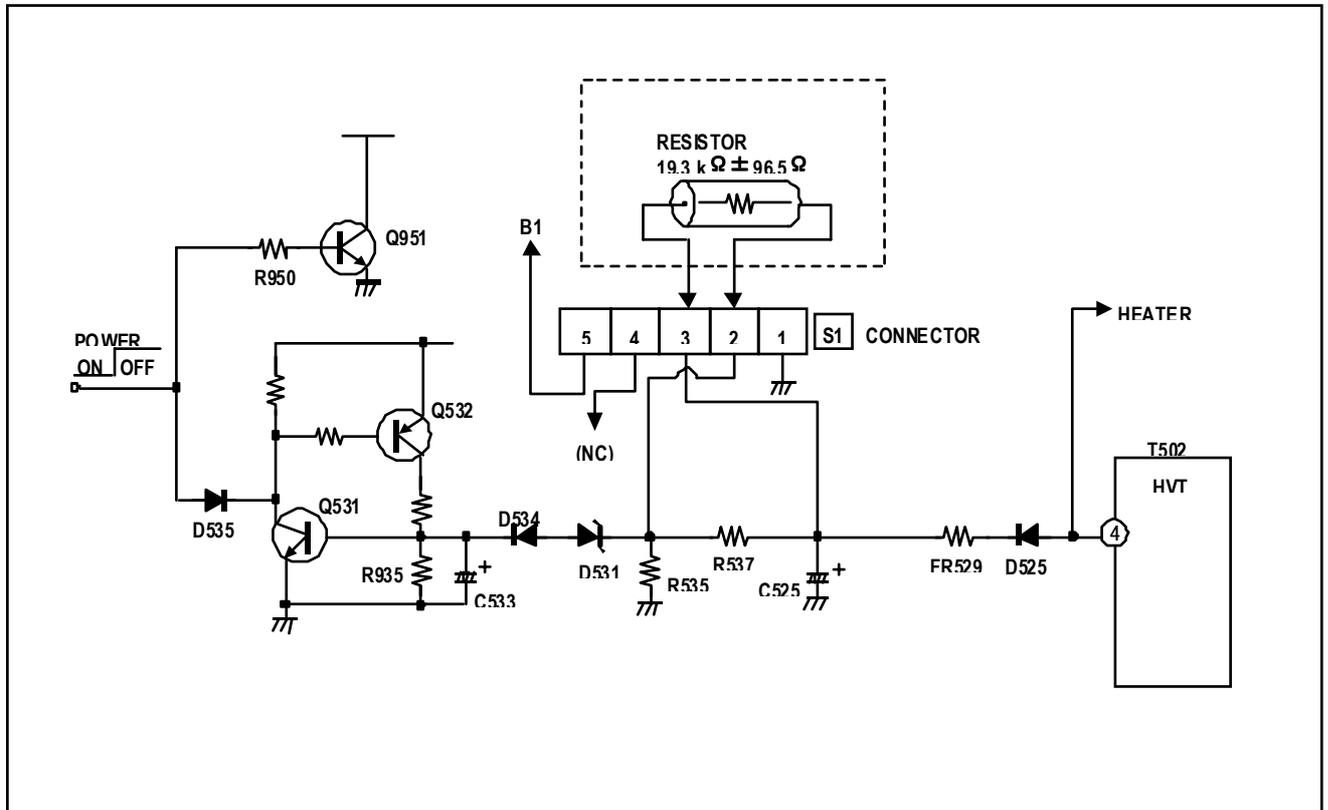

Fig. 1
After repairing the high voltage hold down circuit shown in Fig. 1.
- (1) Turn the power switch to on.
- (2) As shown in Fig. 1, set the resistor between **S1** connector **2** and **3**.
- (3) Make sure that the screen picture disappears.
- (4) Temporarily unplug the power plug.
- (5) Remove the resistor replaced **S1** connector **2** and **3**.
- (6) Again plug the power plug, make sure that the normal picture is displayed on the screen.